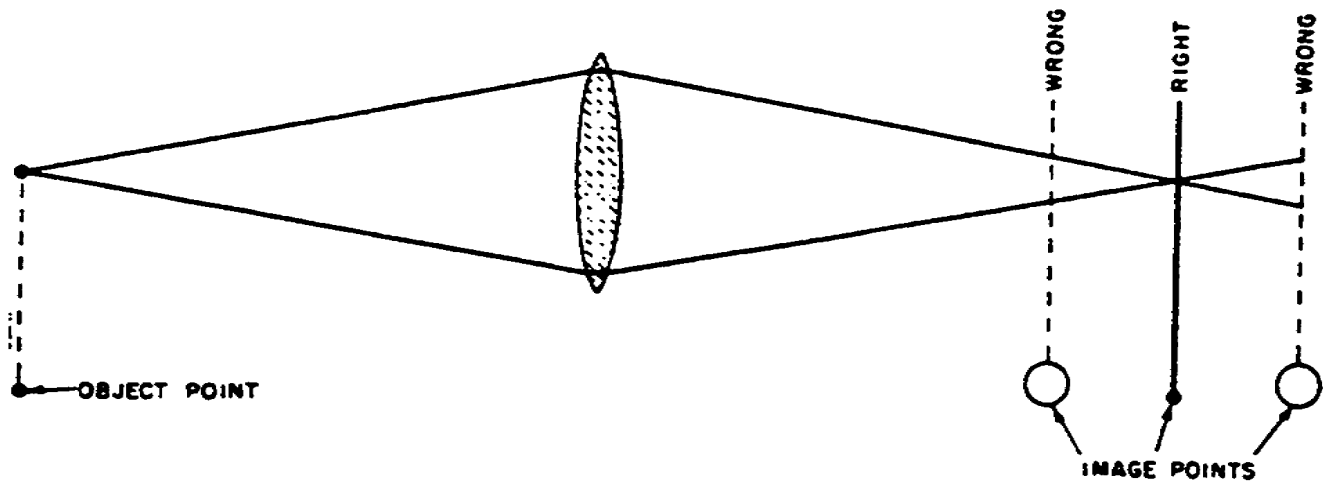

Figure 2-19. Image points nearer to and farther from focal point.
c. If the cone of light is intersected, either in front or behind the focal plane, the light rays form circles rather than points. These are called circles of confusion, (fig 2-19). A circle of confusion is a point of light that has been enlarged due to incorrect focus. It is measured as a fraction such as $1/250$, $1/500$, or $1/1000$ of an inch.
(1) Focusing. Light rays form sharp points on the ground glass or film if the subject is at a correct distance from the lens in relation to the distance between the lens and the film. At this point, the image is sharp and the lens is focused properly, (fig 2-19).